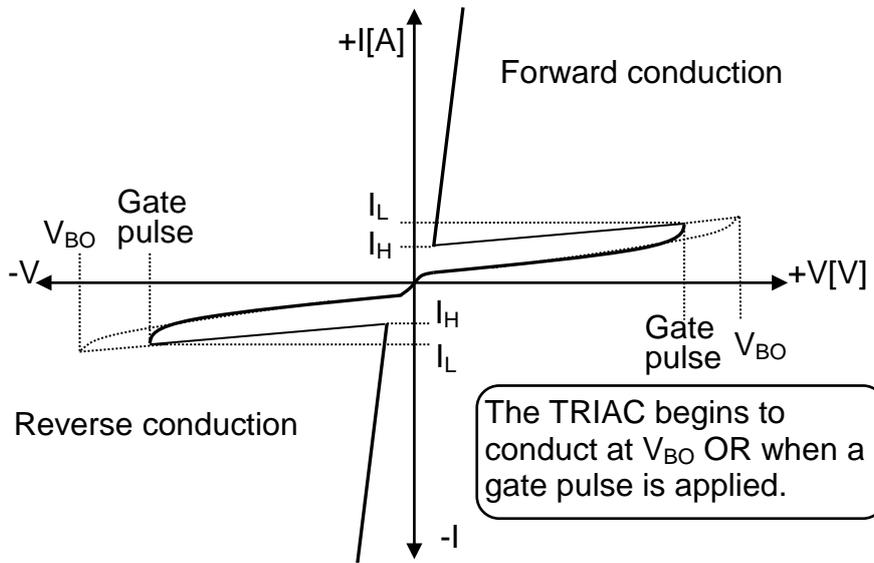

FIGURE 6.2: CHARACTERISTIC CURVE OF A TRIAC
6.7 The characteristic curve of a TRIAC is shown in FIGURE 6.2 below.